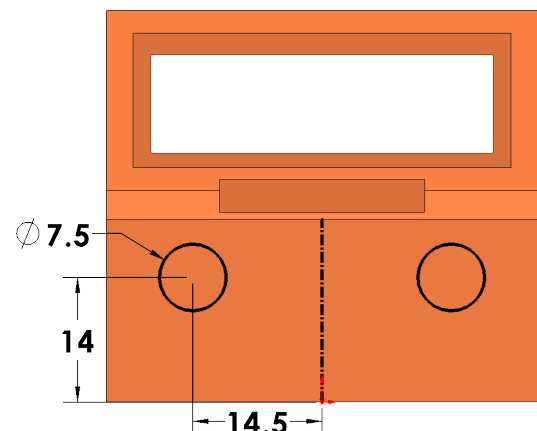

Fig. 75
Step 10. Click **Smart Dimension**  (S) on Sketch toolbar.
Step 11. Add dimensions, **Fig. 75**.